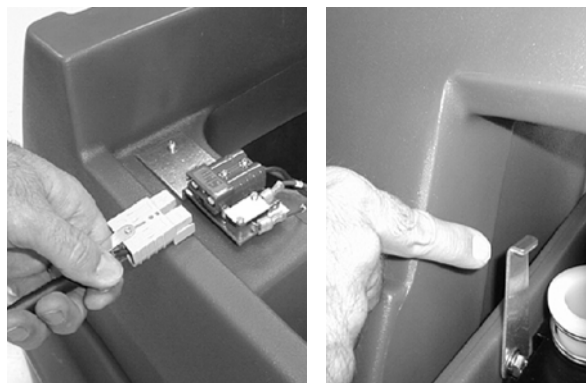

FIG. 20
- Connect battery charger into machine as shown. Flip up hood support stand and rest hood on stand to promote ventilation (Figure 20).